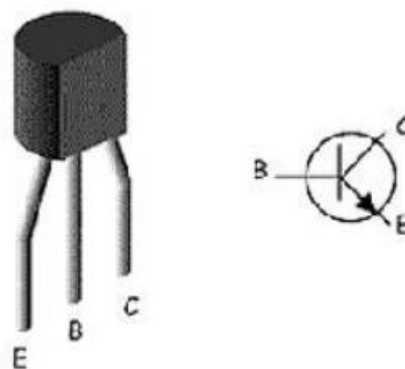

Figure 6 Typical transistor pin-out diagram
The reflective infrared photoelectric sensor is to be used. According to its principle and internal structure, we can design the circuit as shown in Figure 6. The resistance is mainly used to limit the current, and the resistance value is usually set as  $R1 = 510\ \Omega$ ,  $R2 = 25\text{K}\ \Omega$ . If the receiver receives the reflected infrared, the infrared receiver is on, and the E pin outputs high level, which is close to VCC; if the receiver does not receive the reflected infrared, the infrared receiver is not on, and the E pin outputs low level, which is close to GND. White matter absorbs less light and most light waves are reflected; black matter can absorb most light waves and only part of them are reflected. To make use of this, we should use black material to block the infrared in this experiment.
Transistors are three-pin active electrical devices. Figure 6 shows a particular type of transistor that we will use for the lab today. It has three pinouts: the Base (B), Collector (C) and Emitter (E). There are various types of transistors, and they can be configured in different ways. Typically, a transistor is used as an amplifier or a switch. You can think of one of the pins as controlling the current flow through the other two. Ideally the “input” pin doesn’t draw any current. We say such a device has “infinite input impedance.” Also ideally, the output voltage characteristics don’t depend on the current